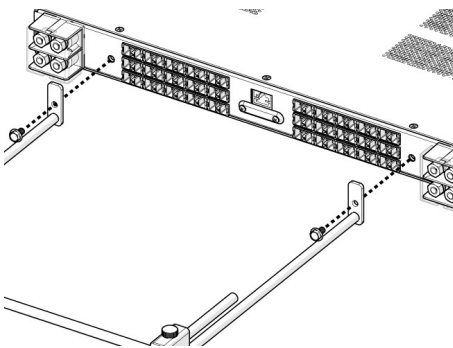

Figure 8. Mount to chassis
Step 4. Secure the base of the two straight panel extension poles from Step 2 to the threaded holes found on the rear of the GMT 125 fuse panel by tightening the hex-head hardware (see Figure 8).